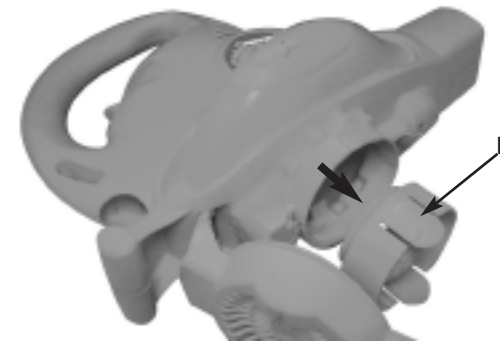

Fig. 5
2. Take off the Air collector (B)(Fig. 5).